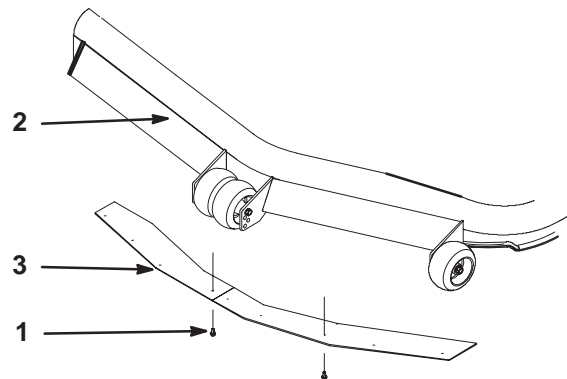

Figure 13
1. To install or remove blowout baffles, install or remove bolts as shown in Figure 13.